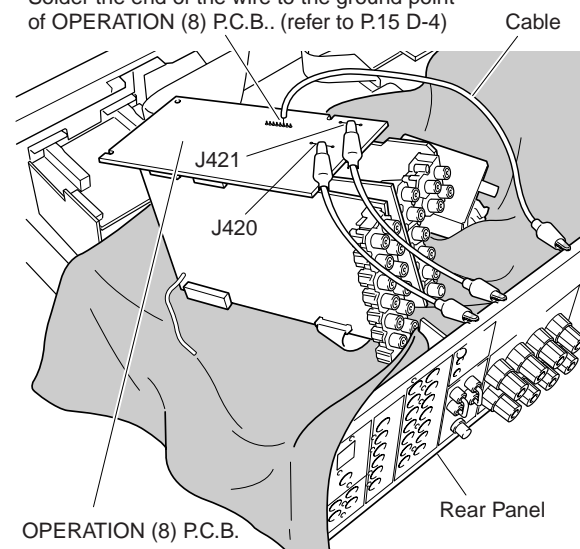

Fig. 2
- Spread a cloth over the Main Chassis as shown in Fig. 2.
- Put the OPERATION (8) P.C.B. on end as shown in Fig. 2.
- Connect the ground point of OPERATION (8) P.C.B. to rear panel by using wire as shown in Fig. 2.
- Connect the J420, J421 of OPERATION (8) P.C.B. to rear panel by using wire as shown in Fig. 2.